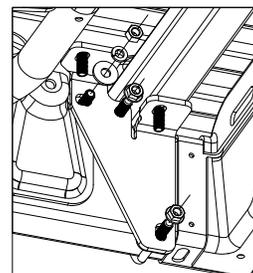
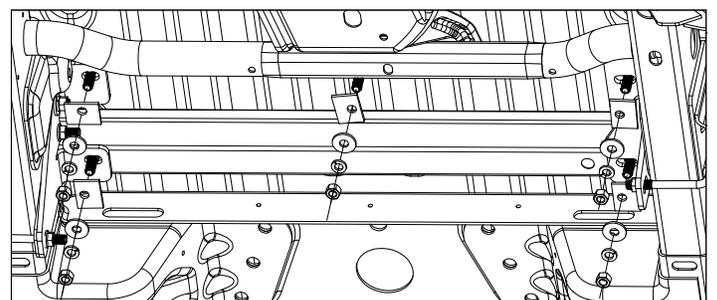

FIGURE B4: View looking up at the inside of driver side frame.
FIGURE B6: View looking up at the bottom of the truck bed.
**Install the rear frame brackets.** Fasten each U-bolt to the frame with two 1/2" flanged washers. Fasten the 1/2" X 4 1/2" carriage bolt on the driver side bracket with a 1/2" flat washer, 1/2" lockwasher, and a 1/2" finish nut, see figure B4 and B5. Install an offset rectangle washer, 1/2" flat washer, 1/2" lock washer and 1/2" nut on each of the carriage bolts passing down through the bed, as shown in figure B6. Hand tighten each nut.